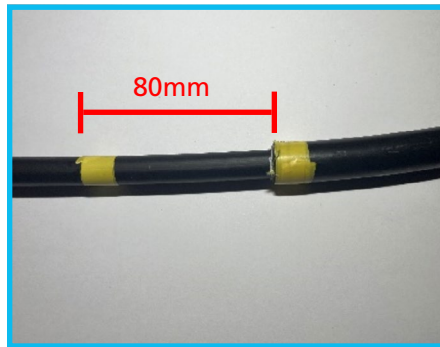

Figure 4.2
2. Remove the water blocking tape and mark the inner sheath at 80mm from the ring cut **[figure 4.2]**.